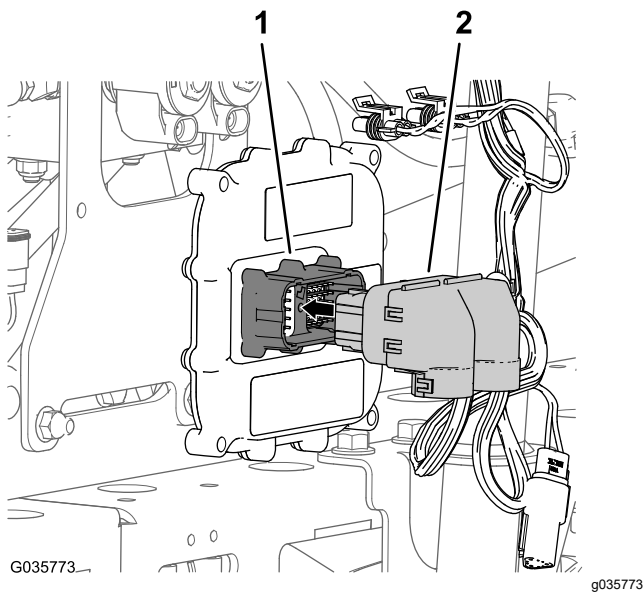

Figure 15
2. Connect the 50-socket connector of the wire harness for the sonic boom to the 50-pin connector of the electronic controller, and secure the connectors with the socket-head screw (Figure 15).